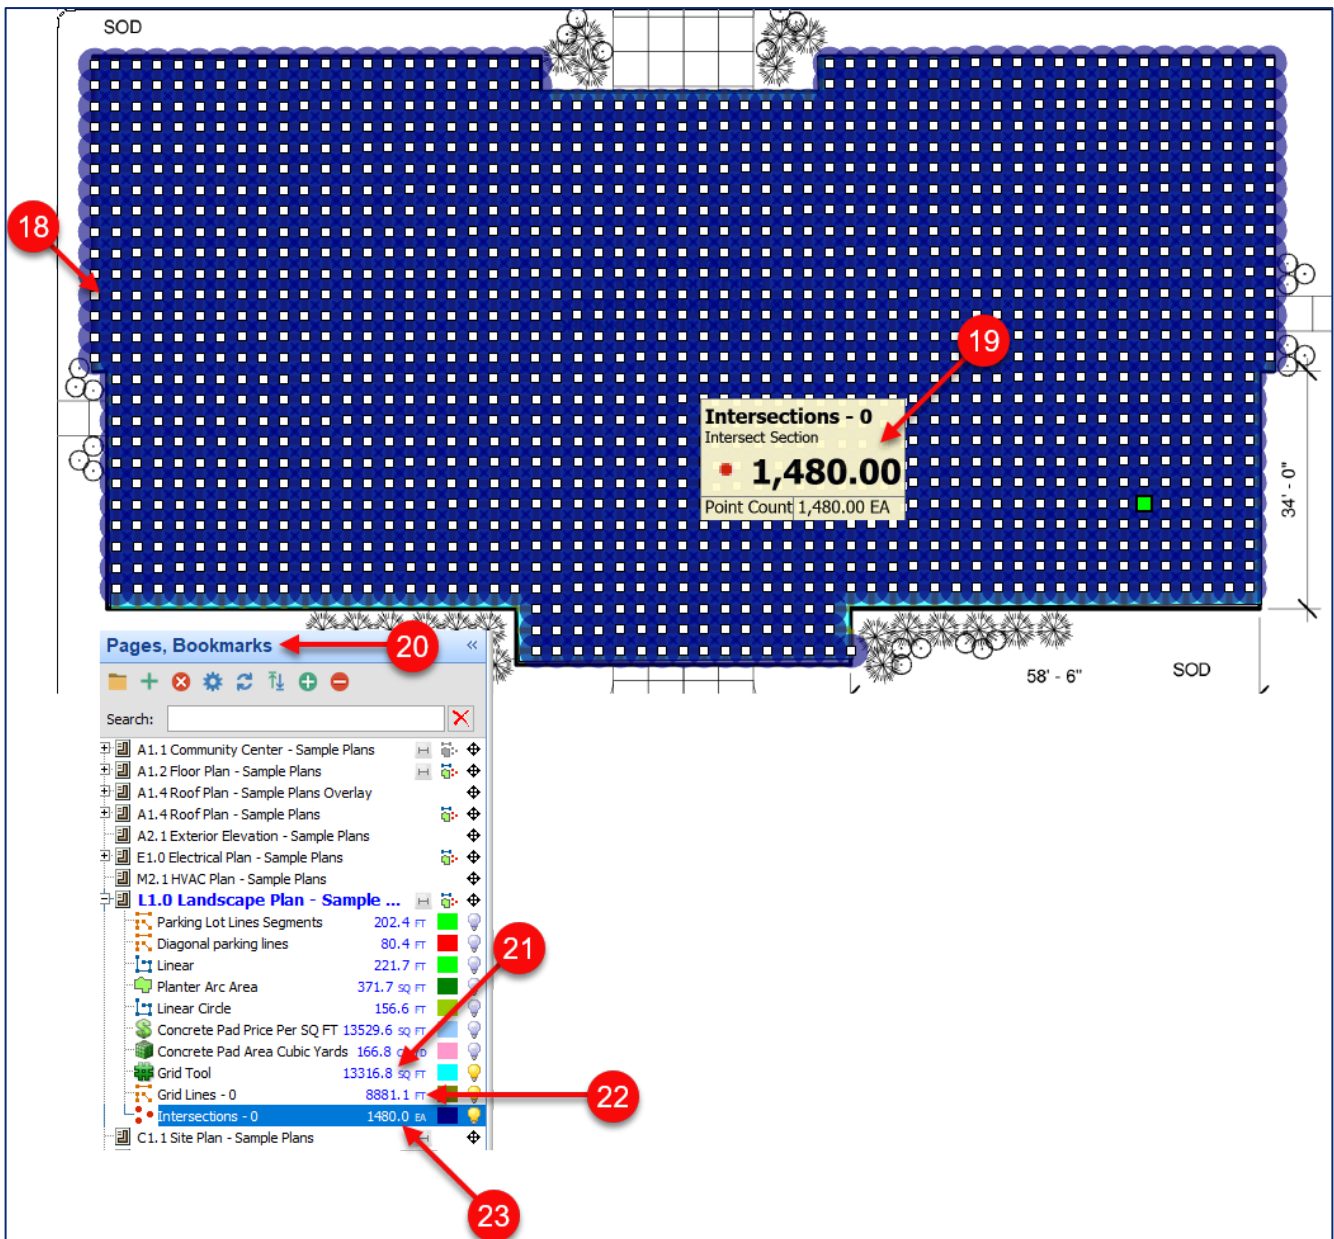

Figure 35-C
24. Click on the **Estimating** tab of the PlanSwift main menu (Fig. 35-D).